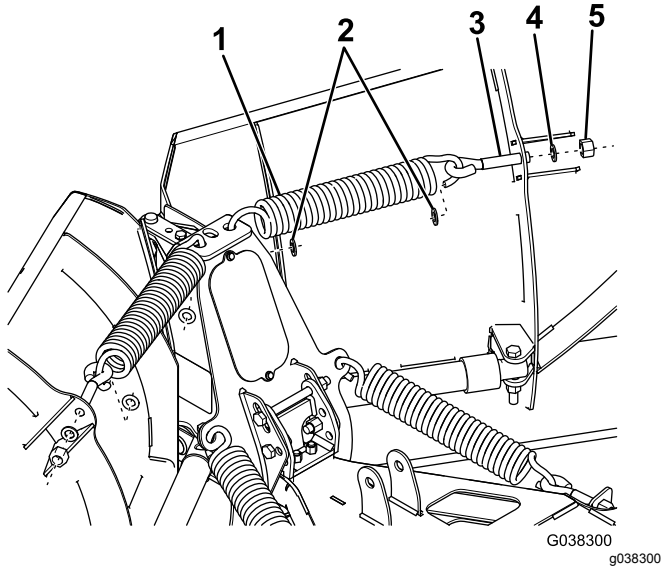

Figure 6
- Hook the 2 trip springs through the holes on the top of the push-frame assembly (Figure 6).
- Hook the other ends of the trip springs to 2 eyebolts (Figure 6).
- Insert the threaded end of the eyebolts through the holes on the plow blade and secure them using 2 washers (1/2 inch) and 2 self-locking nuts (Figure 6).
- Slide a push nut retainer onto each end of the trip springs (Figure 6).